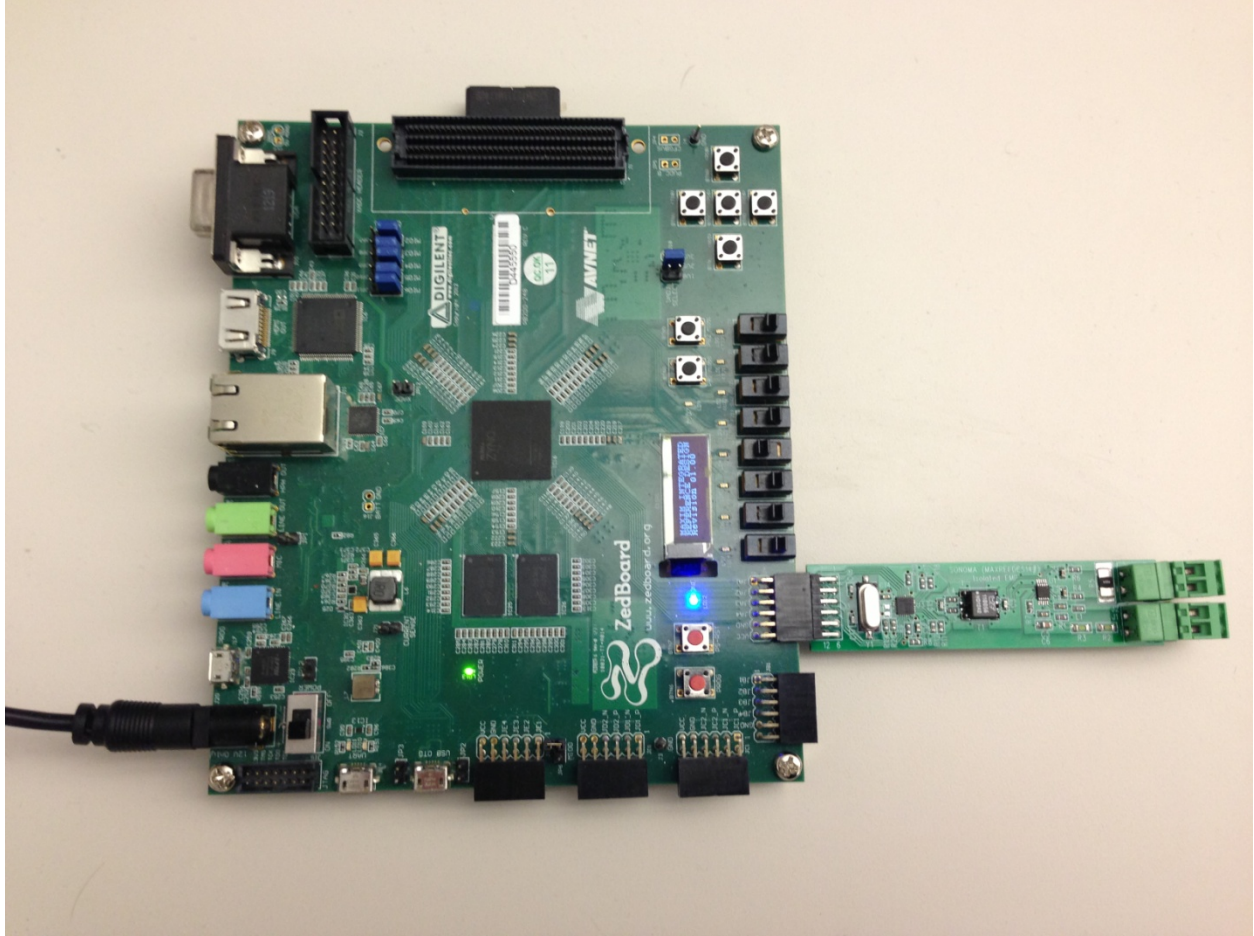
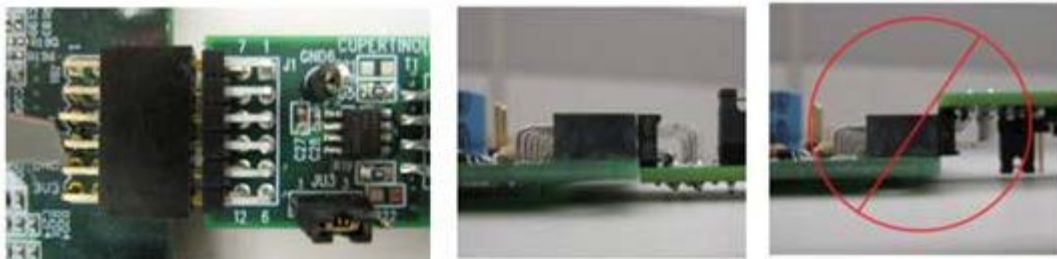

Figure 1. Sonoma Board Connected to ZedBoard Development Kit
Figure 2. Pmod™ Connector Alignment
- 1) Connect the Sonoma board to the JA1 port of a ZedBoard as shown in Figure 1. Ensure the connector is aligned as shown in Figure 2.
1. Connect the Sonoma board to the JA1 port of a ZedBoard as shown in Figure 1.